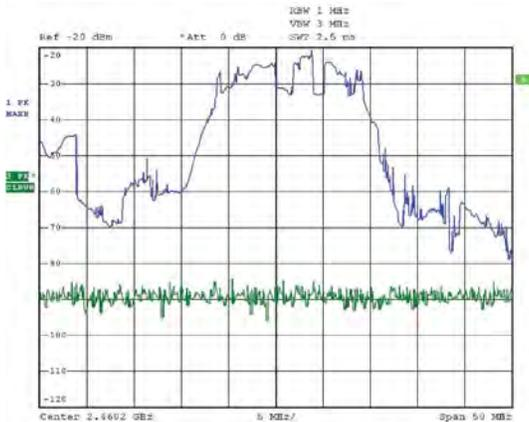
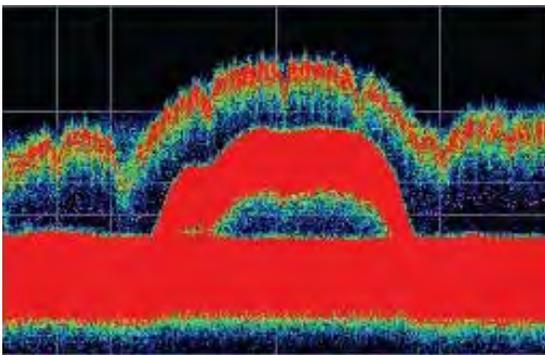

Figure 2: Display of a traditional swept spectrum analyzer
Figure 3: Real-time signal analyzer with a DPX display
Compare the Figure 2 on page 68 display of a traditional swept spectrum analyzer figure and that of a Figure 3 on page 68. The signal captured is a typical WLAN interchange between a nearby PC and a more-distant network access point (AP). The laptop signal is nearly 30 dB stronger than the AP's signal because it is closer to the measuring antenna.
The Figure 2 on page 68, uses line traces that can show only one level for each frequency point, representing the largest, the smallest or the average power. After many sweeps, the Max Hold trace shows a rough envelope of the stronger laptop signal. +Peak detection was selected for the other trace in an attempt to capture the weaker but more frequent AP signal, but the bursts are very brief, so the likelihood of seeing one in any particular sweep is small. It will also take a long time to statistically capture the entire spectrum of a bursted signal due to the architecture of the swept spectrum analysis.
The Figure 3 on page 68, reveals much more insight on the same signal. Since it is a bitmap image instead of a line trace, you can distinguish many different signals occurring within each update period and/or different version of the same signal varying over time. The heavy band running straight across the lower third of the graph is the noise background when neither the laptop nor the AP is transmitting. The red lump of energy in the middle is the ON shape of the AP signal. Finally, the more delicate spectrum above the others is the laptop transmissions. In the color scheme used for this demonstration (“Temperature”), the hot red color indicates a signal that is much more frequent than signals shown in cooler colors. The laptop signal, in yellow, green and blue, has higher amplitude but doesn't occur nearly as often as the AP transmissions because the laptop was downloading a file when this screen capture was taken.